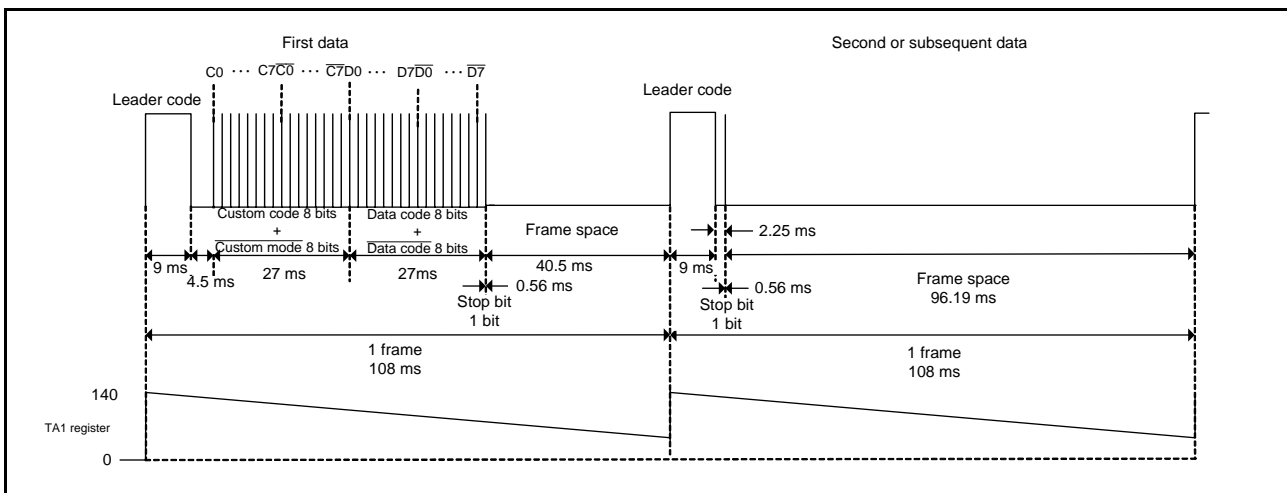

Figure 6.1 Remote Control Format Diagram
- Figure 6.1 shows the Remote Control Format Diagram.